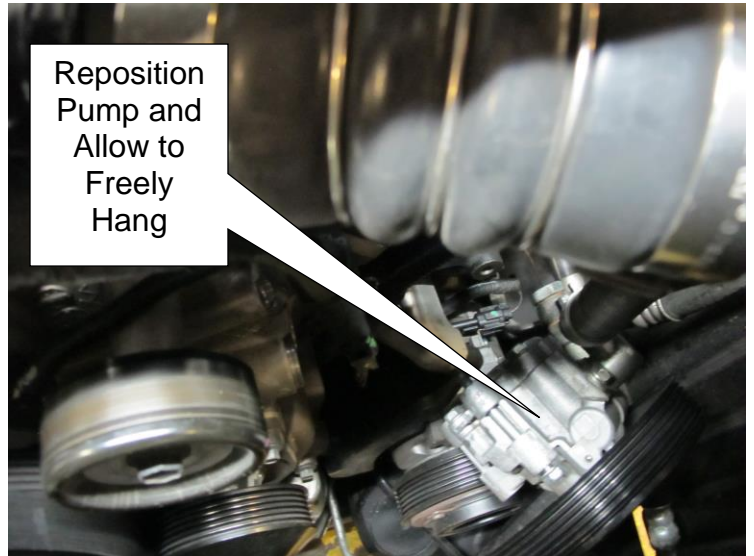

Figure 6
5. Slowly reposition pump and allow to freely hang providing clearance to power steering pump bracket (Figure 6).